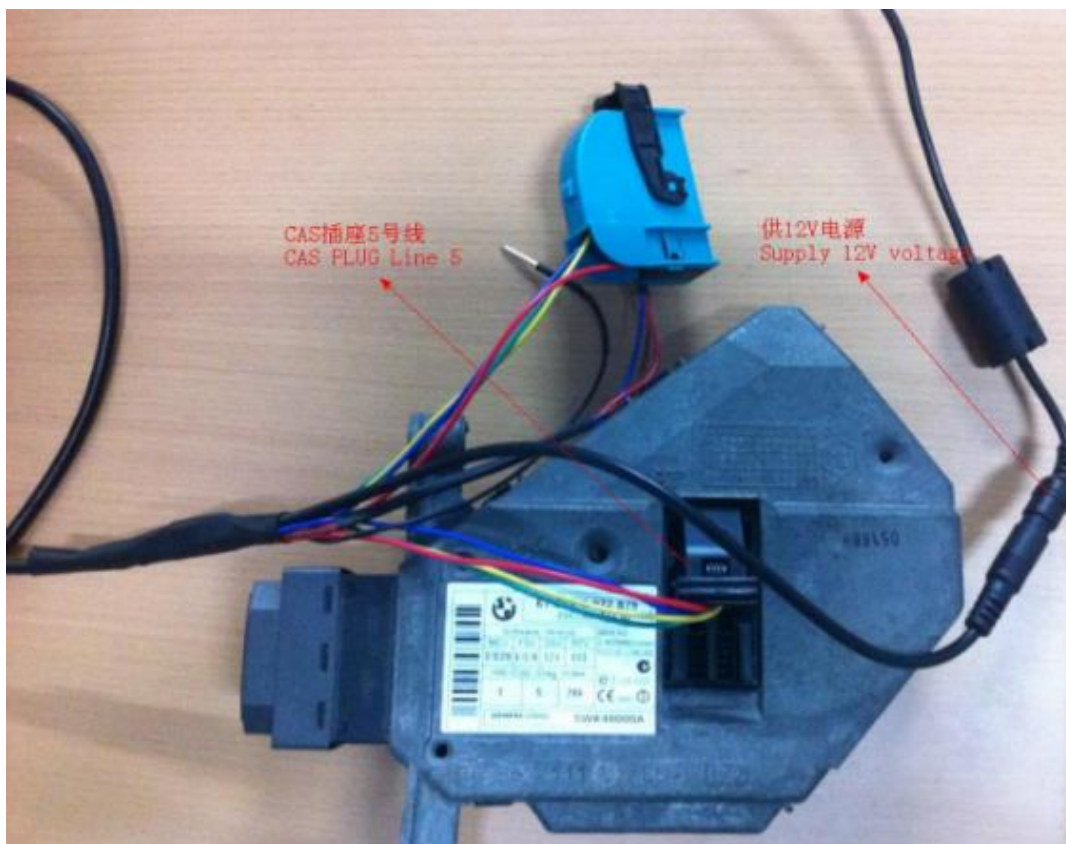

IMAGEN 10.5
- Para conectar el CAS PLUG al CAS1/CAS2 (IMAGEN 10.5)